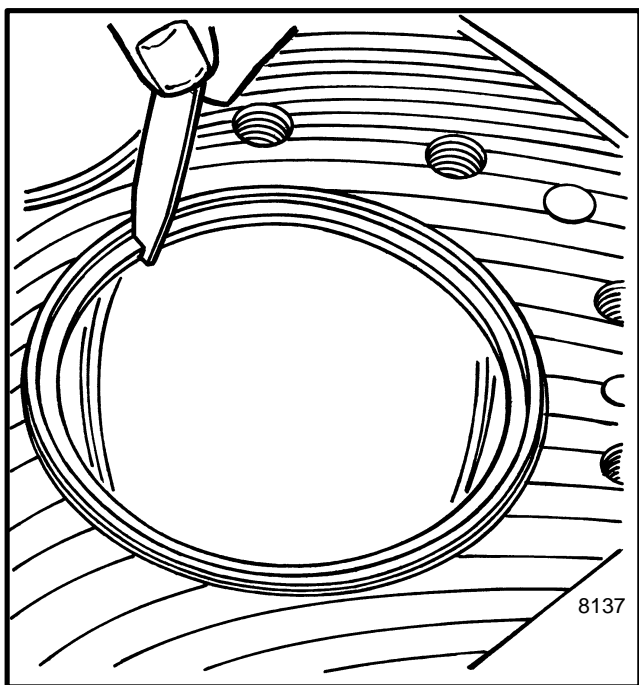

FIGURE 20. CHECKING THE CLEARANCE AT THE ENDS OF THE PISTON RINGS
NOTE: The 4.2482 engine has three piston rings on each piston. See FIGURE 20.
6. Check the clearance of the ends of the rings in the cylinder bore. See FIGURE 20. See SPECIFICATIONS in this section for correct dimensions.